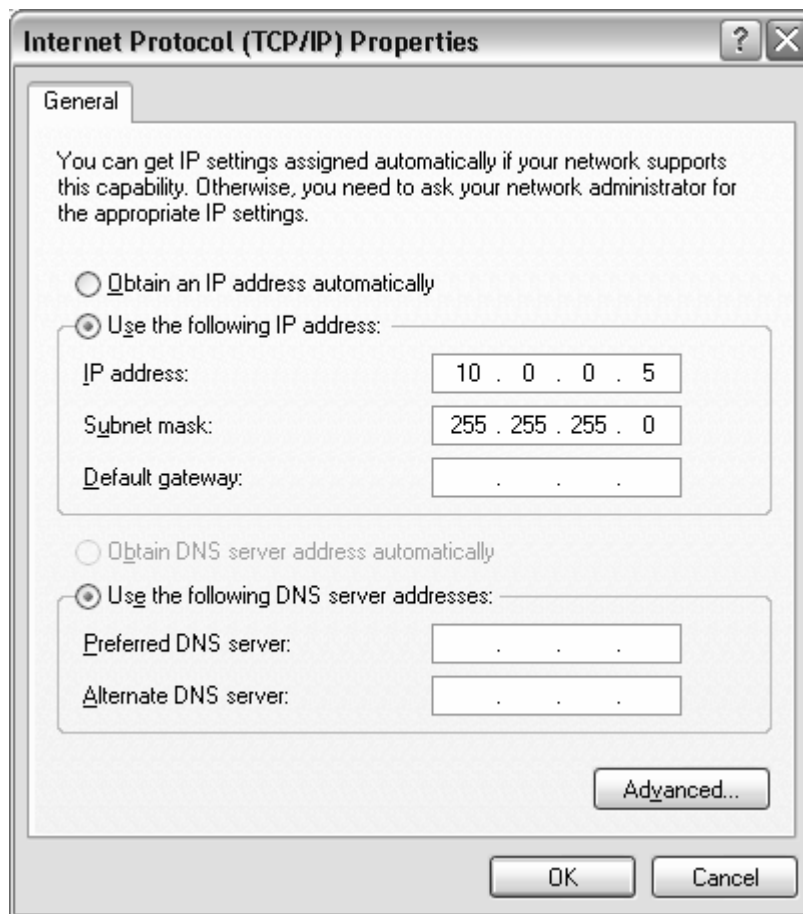

Figure 9. Changing Internet protocol properties
4. Change internet protocol settings as shown in *Figure 9*: